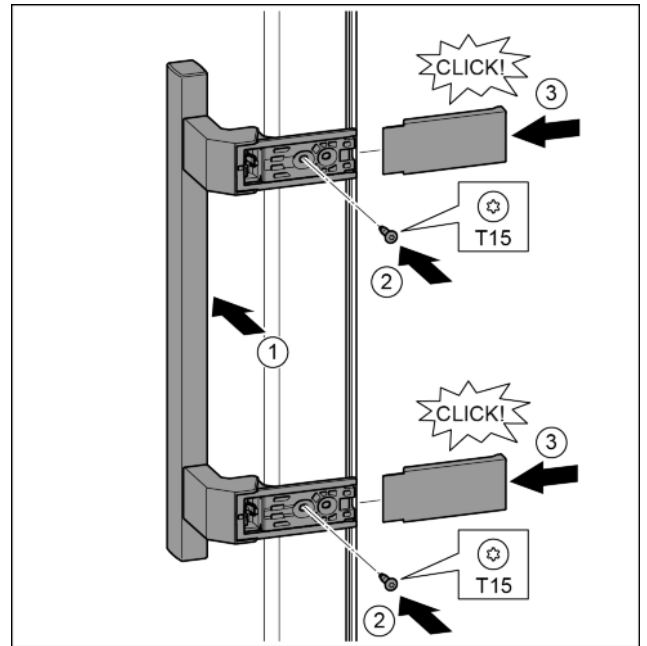

Fig. 16
- ▶ Position the handle on the other side. Fig. 16 (1)
- ▶ Tighten the screws with the T15 screwdriver. Fig. 16 (2)
- ▶ Position the covers on the side and push in. Fig. 16 (3)